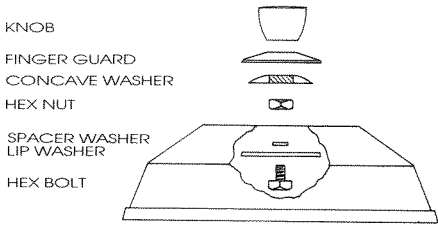

FIG. 1
STEP 1—LID ASSEMBLY—Place large washer first, then small spacer washer on to bolt as shown in figure 1. Insert up through lid and tighten with hex nut. **NOTE:** Small spacer washer must fit up into center hole of lid. Place stainless concave washer (round side up) over hex nut, then finger guard and tighten together with knob. Knob and finger guard should turn freely.